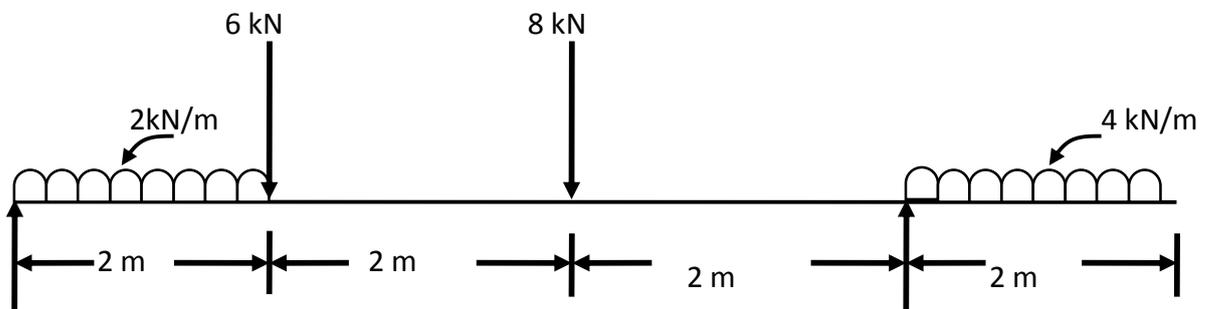

Fig.No.3
- Q.4** (a) Draw shear force and bending moment diagram for the loaded as shown in figure No. 3. **07**